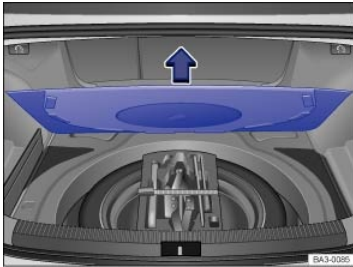

Fig. 189 In the luggage compartment under the floor panel: Compact spare wheel and vehicle tool kit.
The vehicle tool kit is in the luggage compartment in one of several places, such as under the luggage compartment floor panel ⇒ Fig. 189.
- Grasp the floor panel by the handle and lift it up in the direction of the arrow ⇒ Fig. 189; remove it if necessary.